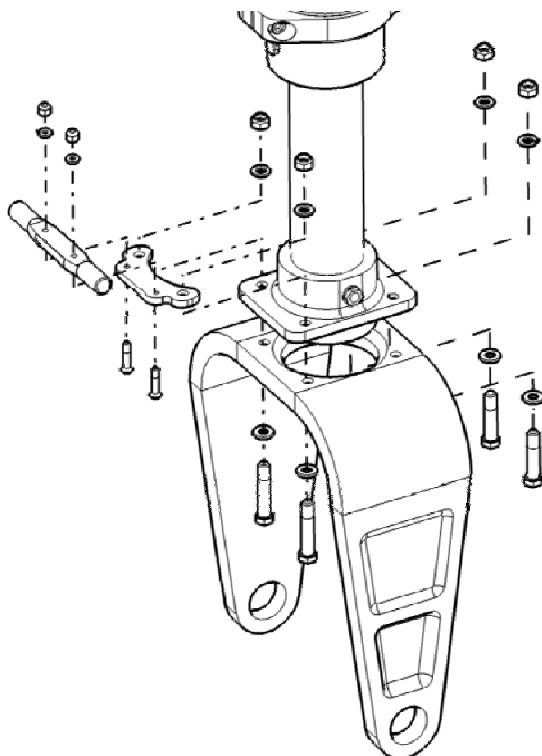

Figure 4-1: Nose Landing Gear Fork Removal
1. Remove the four (4) bolts, four (4) washers, and four (4) nuts securing the nose landing gear fork to the fitting at the lower end of the chrome tube. Refer to **Figure 4-1**.